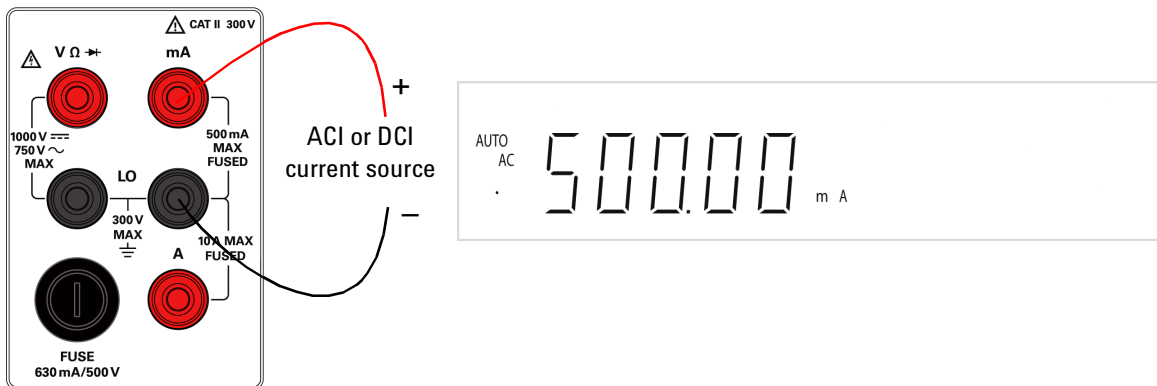

Figure 2-3 ACI RMS or DCI (mA) terminal connection and display
- 3 Connect the red and black test leads to mA input terminal as shown in Figure 2-3.